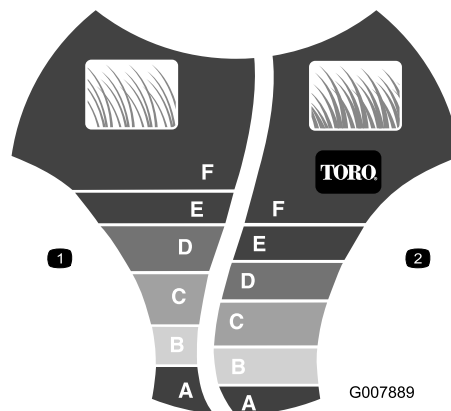

Figure 16
The SmartWheel® has 2 cutting scales—Sparse/Normal and Lush—to ensure the best cutting height setting in any mowing condition (Figure 16).
Note: The SmartWheel calculates the proper setting to ensure that you cut no more than a third of the grass blade (Figure 16).
2. Move the lawn mower into the grass; stop moving the lawn mower when the SmartWheel design is upright (Figure 16).